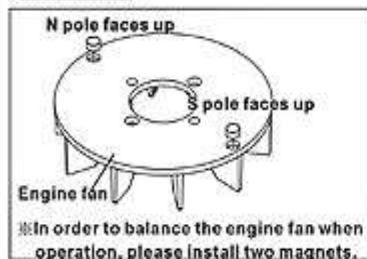

Fig.1
- See Fig. 1, first install two magnets on the mounting hole of the engine fan with CA glue or R48 glue, the north pole of one magnet (mark N) faces up and the north pole of the other magnet faces down.